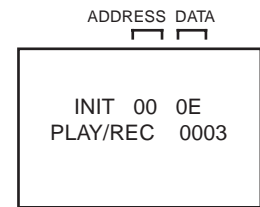

Fig. 1
ADDRESS and DATA will appear on TV Monitor as **Fig 1**.
1. Remove the Top Cabinet and Front Cabinet. **(Refer to item 1 of the DISASSEMBLY INSTRUCTIONS.)**
2. Slide the Rack Loading (White) toward the arrow direction by using a minus driver to release the lock. **(Refer to Fig. 1)**